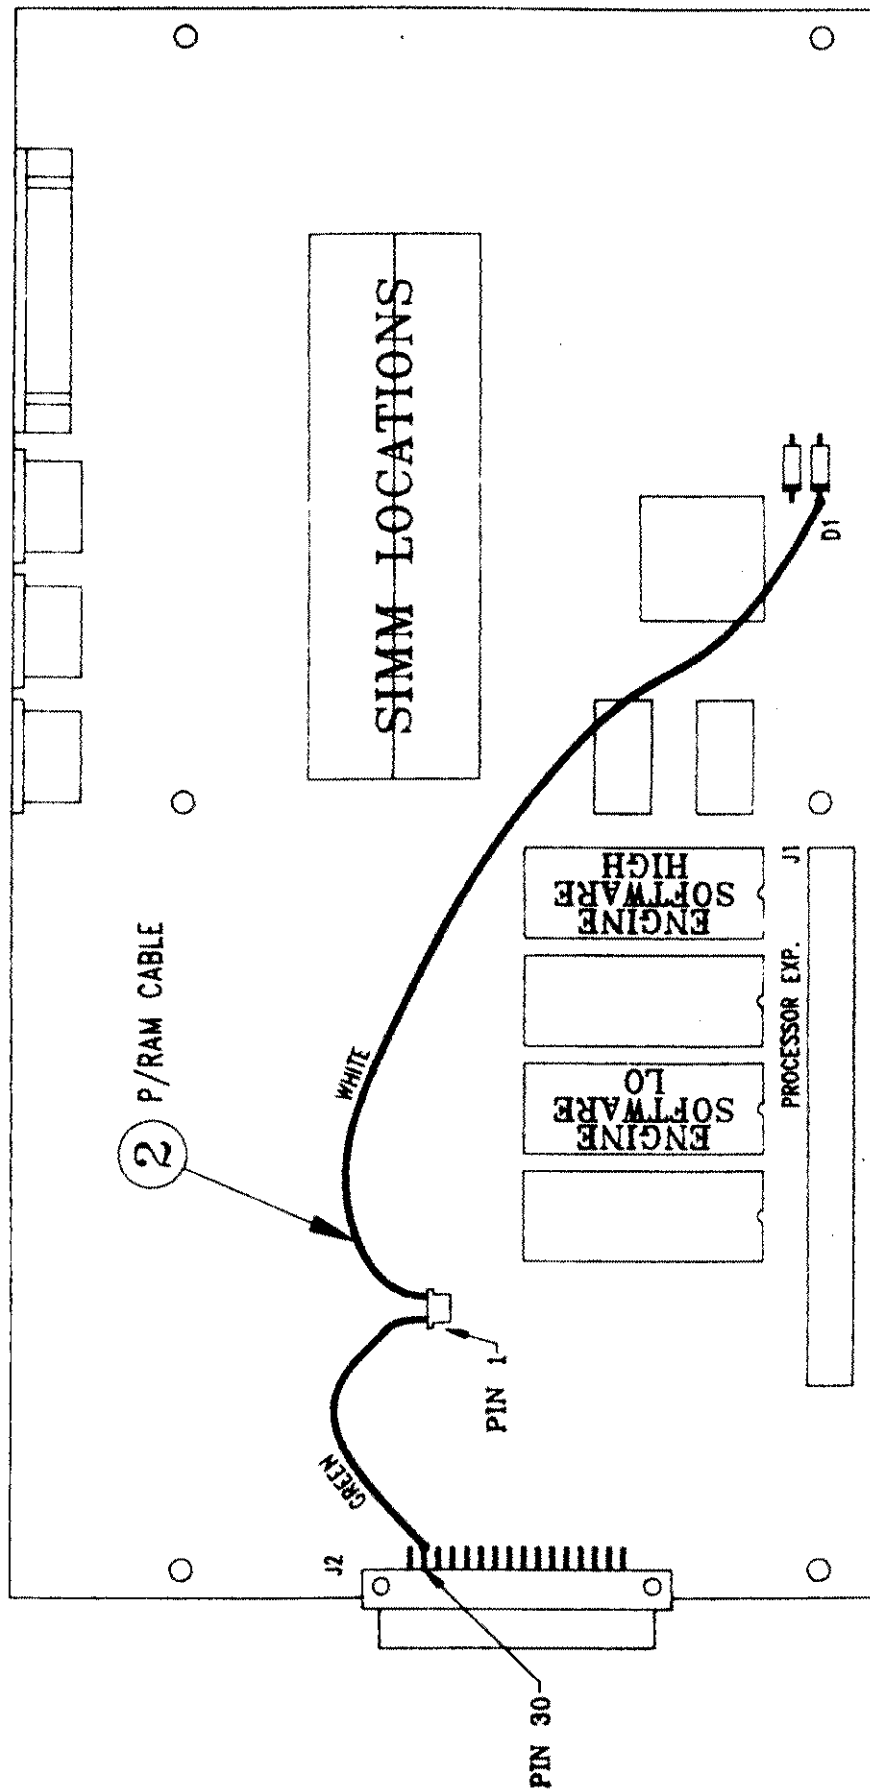

FIGURE 2
- 5 Figure 2 shows a closeup of the K2000 Engine board. Refer to Figure 2 and locate Pin 30 on the Engine board connector labeled J2. Pin 30 is located toward the rear of the unit. (It's the second pin from the back edge of J2, in the row toward the center of the board.) Take the P/RAM Option Kit cable (Item 2) and solder its green wire to Pin 30.
- 7 Locate the 64-pin connector labeled "PROCESSOR EXP" (J1) near the left front corner of the Engine board. See Figure 2.